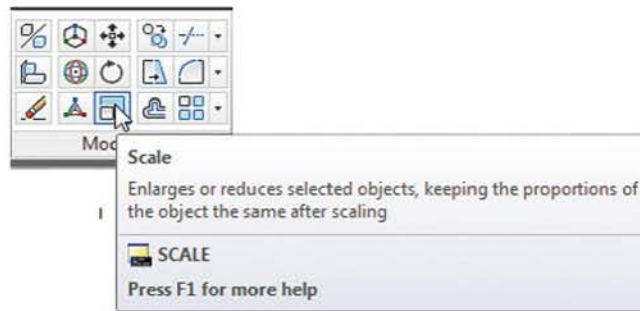

Fig. 6.25 The Scale tool from the Modify panel
- Call **Scale** – *left-click* its tool icon in the **Home/Draw** panel (Fig. 6.25), *pick* **Scale** from the **Modify** drop-down-menu or *enter* `sc` or `scale` at the command sequence, which then shows: